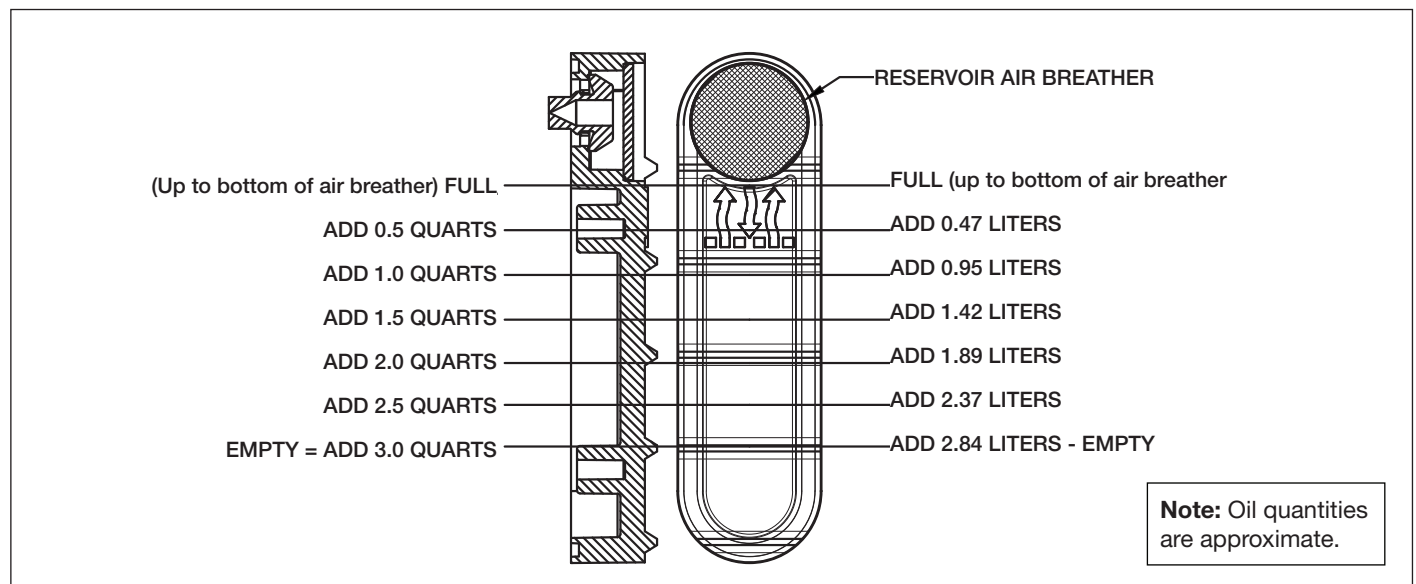

Figure 13, Reservoir Oil Fill Guide
5. With the pump in the normal (horizontal) operating position, check the oil level in the oil level indicator. Use the diagram in Figure 13 to determine the approximate amount of additional oil that must be added.